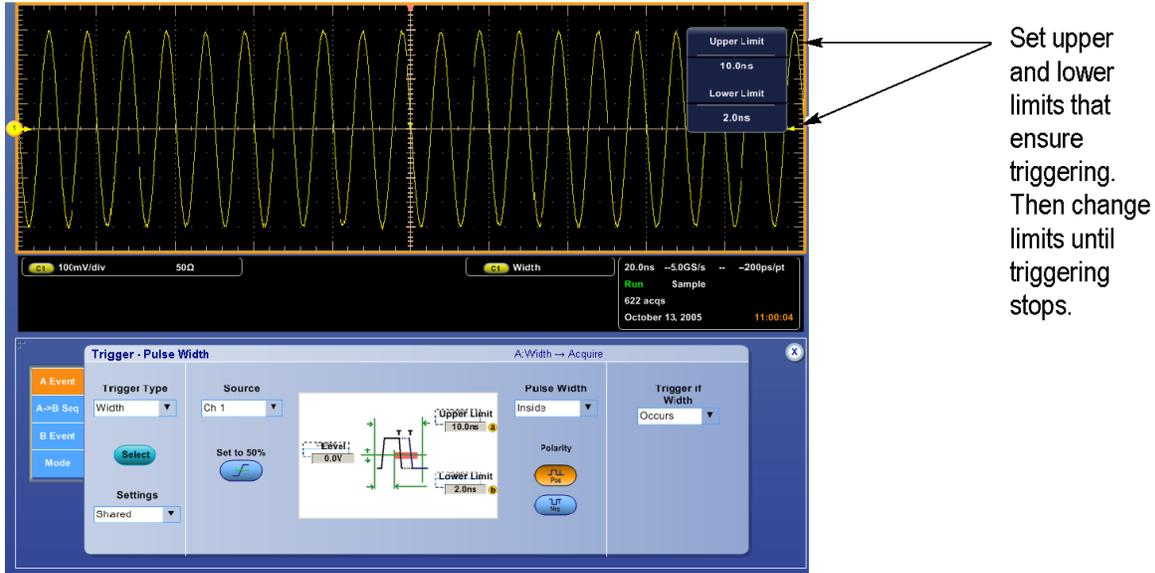

Figure 32: Measurement of time accuracy for pulse and glitch triggering
a. Set upper and lower limits that ensure triggering at 100 MHz: (See Figure 32 on page 309.)